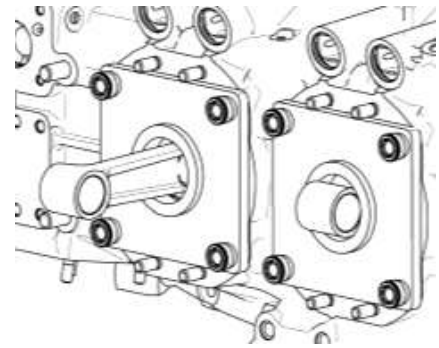

Figure 87
- (11) Install the Torque Hold-Down Plate (ST-222, Figure 87) or equivalent on the cylinder pads over the thru-studs.
- (12) Attach the plates with washers and nuts on the thru-studs. Tighten the nuts only finger tight at this time.
- (13) Make sure that the plates remain parallel with the cylinder decks of the crankcase.